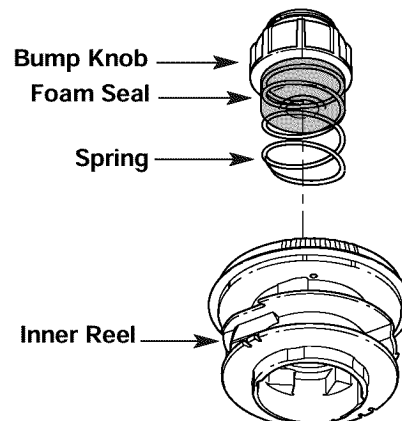

Fig. 22
1. Turn the bump knob counterclockwise and remove the bump knob, spring and foam seal (Fig. 22).
4. Hold the inner reel in place and install the bump knob, spring and foam seal. Press down and turn the bump knob clockwise. Grasp the ends and pull firmly to release the line from the holding slots in the inner reel (Fig. 22).
2. Pull out the bump knob, spring and foam seal (Fig. 22).
7. Place the bump knob, spring and foam seal into the inner reel (Fig. 22).